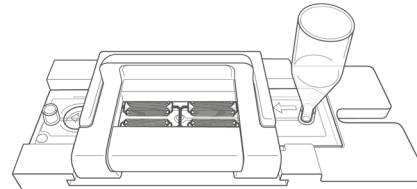

Fig. 25. Inlet Funnel in Slide Manifold inlet port.
4. Insert the Inlet Funnel into the inlet port of the manifold. Make sure the Inlet Funnel is completely inserted before proceeding to the priming steps (Figure 25).